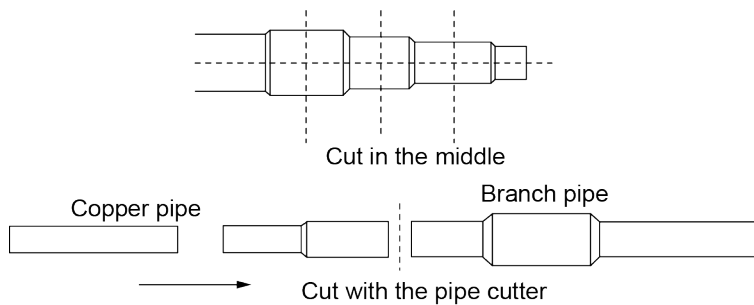

Fig.3.4.6
- 3) Manifold has several pipe sections with different pipe size, which facilitates to match with various copper pipe. Use pipe cutter to cut in the middle of the pipe section with different pipe size. See the Fig.3.4.6 as below.